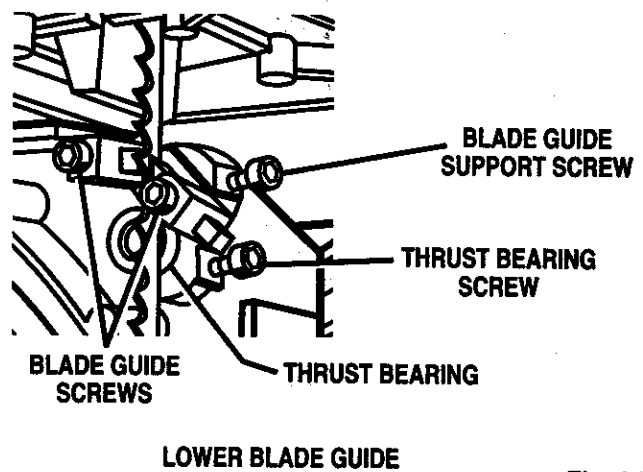

Fig. 21
Note: The lower blade guide support screw is the top screw located on the right of the saw frame under the table. See Figure 21.
- Repeat this procedure on the lower blade guides located under the table. See Figure 21.